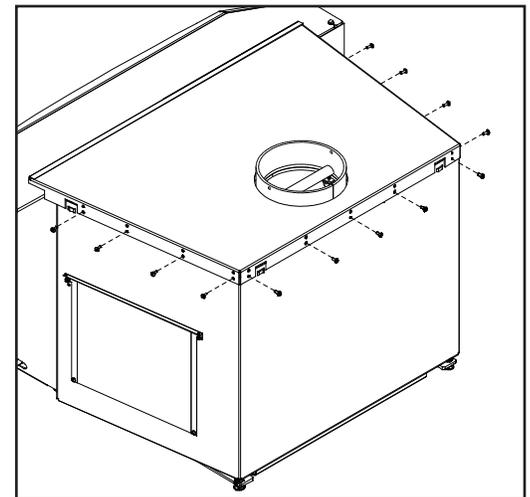

**Figure 6:** Bolts to remove.
- Remove the two lag bolts (shown in Figure 6) that secure the unit to the pallet from inside the firebox.